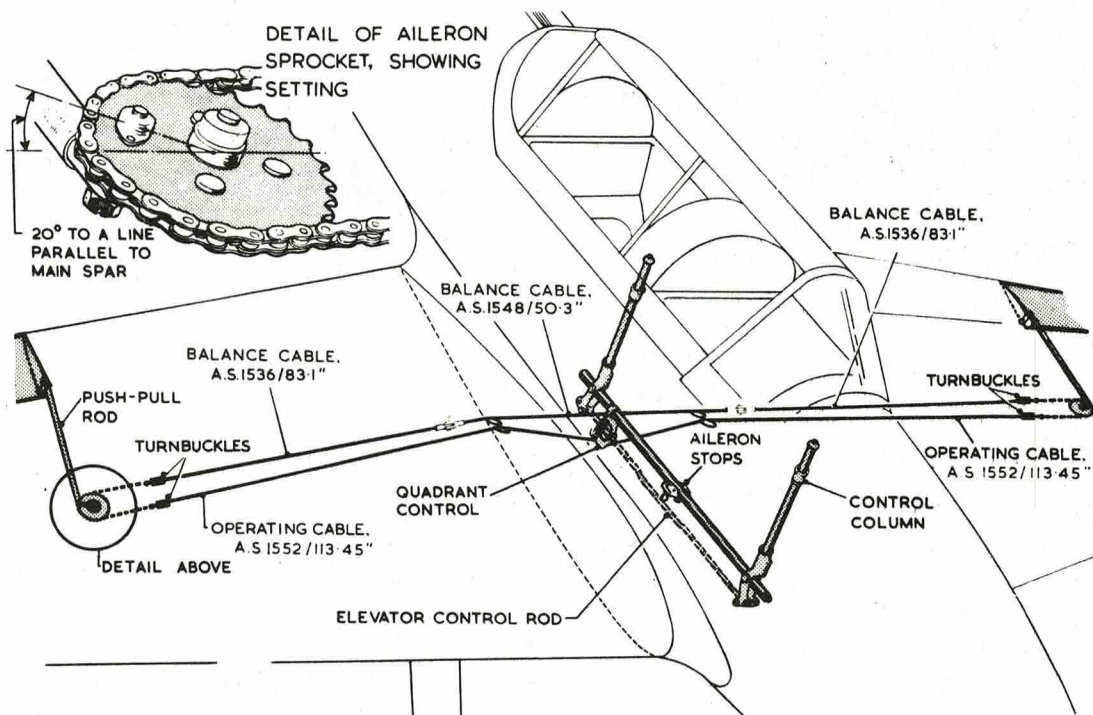

Fig.4 Aileron control run
Movements are measured at the inboard end in line with the rib. The stops are on the front section of the rockshaft, in the control box immediately aft of the front seat (fig.4).
Key to Fig.4 (AILERON CONTROL RUN).
...Key to Fig.4 (AILERON CONTROL RUN) continued
| 1 AILERON HINGES (3) ● | 9 TAILWHEEL STRUT ATTACHMENT TO TAIL PLANE ■ | 15 ALL PULLEYS IN AILERON CONTROL RUNS (fig. 4) ○ |